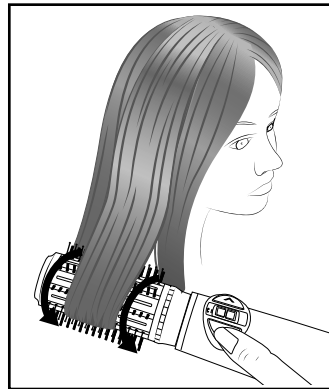

Fig. 1
- 5) Press and hold the rotation button 2 >/ 7 < so that the round brush 8/9 starts to rotate. Use the round brush 8/9 at the ends of the hair, distributing the strand along the length of the round brush 8/9 (see Fig. 1). The twisting movement coils the strand. Release the rotation button 2 >/ 7 < before the hairline is reached. The brush stops rotating.